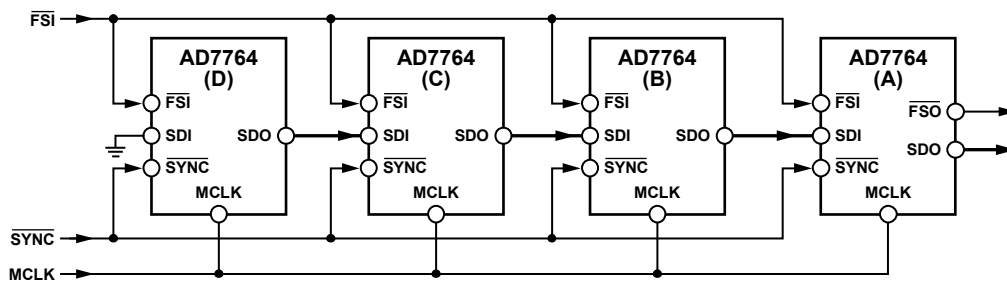

Figure 40. Daisy-Chaining Four Devices in Decimate 128x Mode Using a 40 MHz MCLK Signal
The block diagram in Figure 40 shows how to connect devices to achieve daisy-chain functionality. Figure 40 shows four AD7764 devices daisy-chained together with a common MCLK signal applied. This can only work in decimate 128x or 256x modes.
Referring to Figure 40, note that the SDO line of AD7764 (A) provides the output data from the chain of AD7764 converters. Also, note that for the last device in the chain, AD7764 (D), the SDI pin is connected to ground. All of the devices in the chain must use common MCLK and SYNC signals.